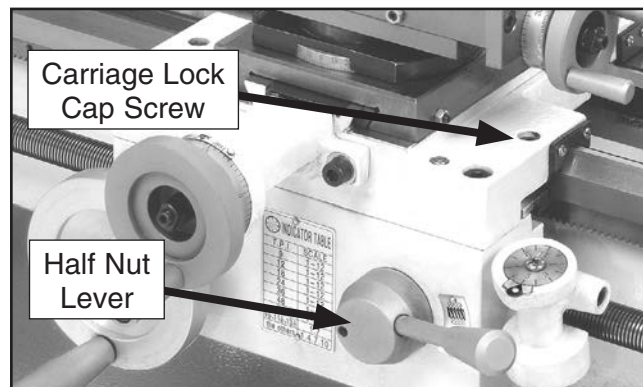

Figure 60. Carriage lock and feed control.
8. Loosen the carriage lock (see **Figure 60**), and push down on the half nut lever to engage the power feed.
8. Loosen the carriage lock (see **Figure 60 on Page 45**).